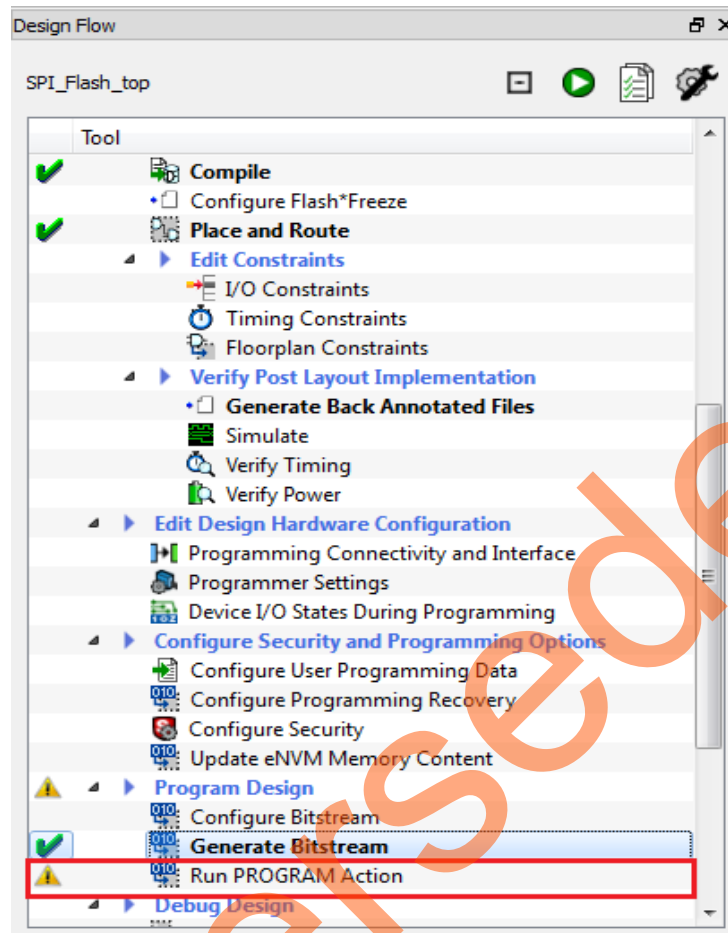

Figure 15 • Run Program Action
4. To program the SmartFusion2 device, double-click **Run PROGRAM Action** in the **Design Flow** tab as shown in Figure 15.